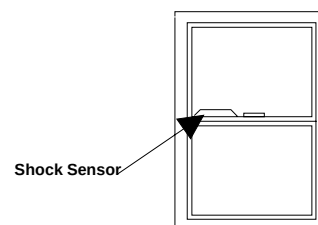

Figure 2. Mounting Options for Door/Window Styles
- ☐ Always mount the shock sensor so that the detector is on the frame and not on glass, solid, or hollow-core doors. See Figure 2 for mounting locations.